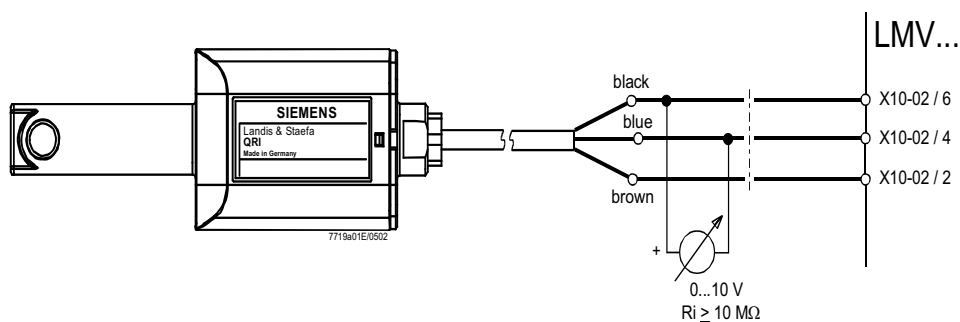

Fig. 13 Detection with detector QRI...
- Examine and clean the detection photoelement, replace it if necessary (see page 34), in case of doubt, check the detection circuit, after the burner start-up (see Fig. 13);
To check the detection current follow the diagram on Fig. 13. If the signal is less than the value indicated, check the position of the detection electrode or detector, the electrical contacts and, if necessary, replace the electrode or the detector.